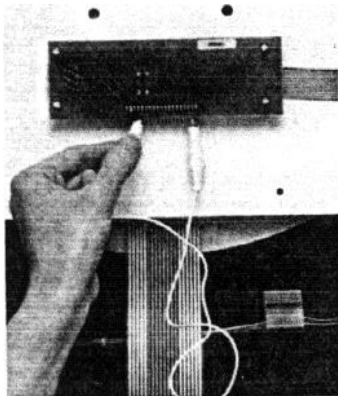

Figure 11
2. Disconnect the ribbon cable **coming** from the T.I. board to the main **P.C. board.** (see fig.11)
3. Locate the trace that runs **below** the ribbon **connector.** (see fig.11)
The new switch matrix design requires a new target interface P.C. board. The target interface board reads the 19 conductors from the switch matrix and transfers it to the main board. For troubleshooting purposes it is important to know which pins on the target interface board will give a particular score. This information is listed in Table 1 and shown in Figure 12. With the game in Test mode (at the end of test when darthead is sensitive) or in game mode, pairs of pins can be shorted and opened with a jumper to simulate a dart hit (see Figure 11). This procedure can help determine whether a scoring problem is in the switch matrix or the game electronics.